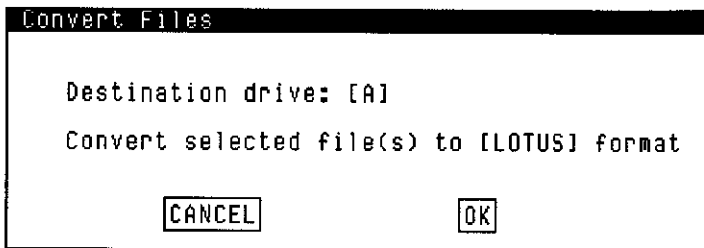

Figure 8-9. Convert Files Window
4. Click on <Convert>. The Convert Files window, Figure 8-9, is displayed. Input the drive where the file(s) are to be stored and select Lotus or ASCII format. Then click on [OK] to convert the selected file(s) and remove the Convert Files window from the display.